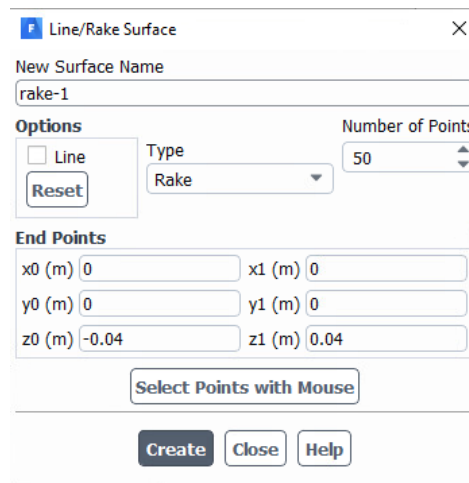

Figure 36. Line/Rake Surface settings
6.3.4. The final settings should be similar to Figure 36. Click on **Create** and close.